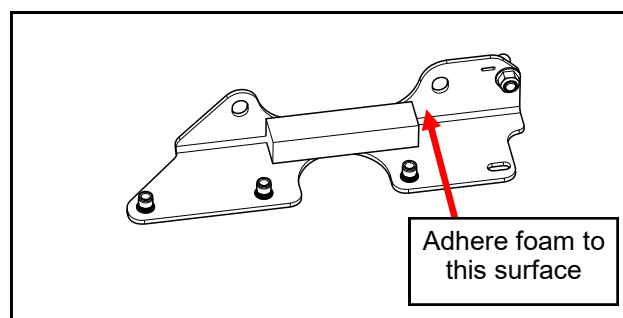

Fig. 8.1 Gas spring bracket foam
- 8.1** Cut the supplied piece of 1" x 3/4" foam in half to make two pieces approximately 4 inches long. Per figure 8.1, apply the foam to the center of the inside corner of the left and right gas spring brackets.